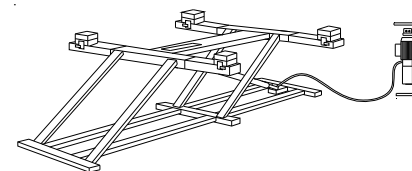

Fig.2
4. BESCHRIJVING HEFBRUG (zie Fig.2)